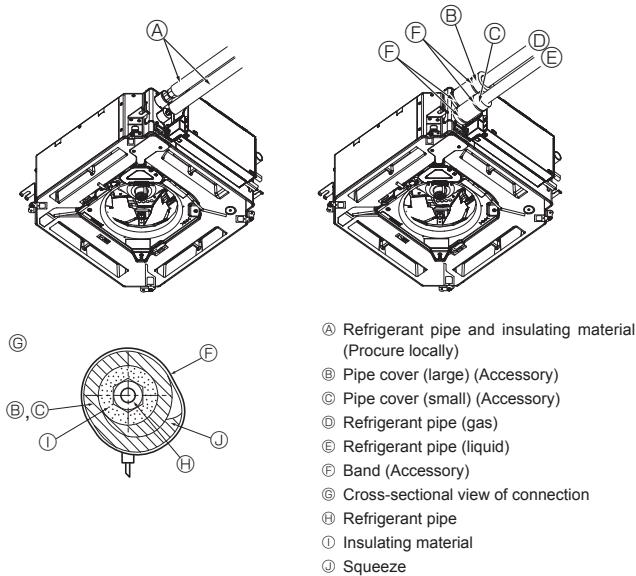

Fig. 5-8
5.5. Pipe connection (Fig. 5-8)